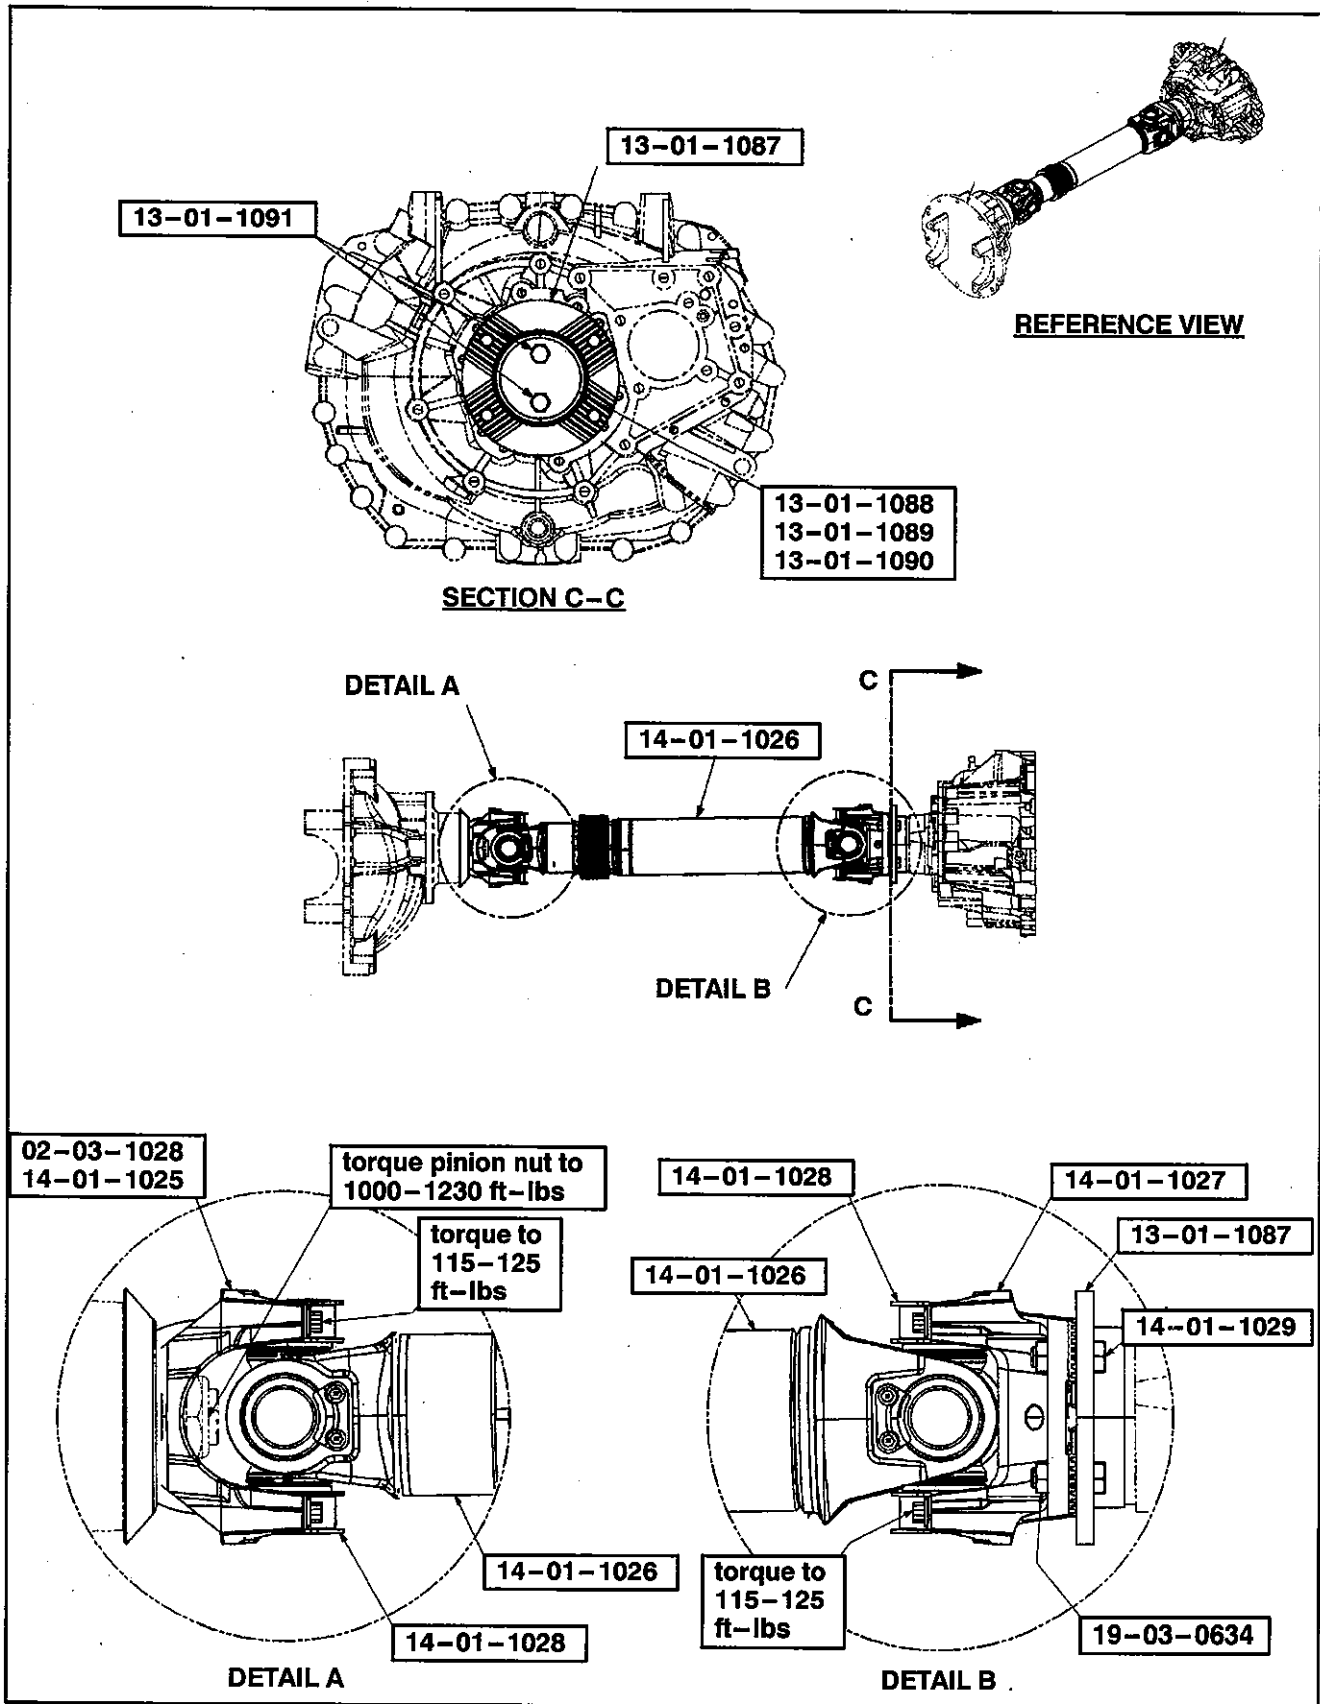

Figure 2.
11. Using tool no. 20-710, install the drive axle pinion seal (p/n 02-03-1028) (refer to Figure 2).